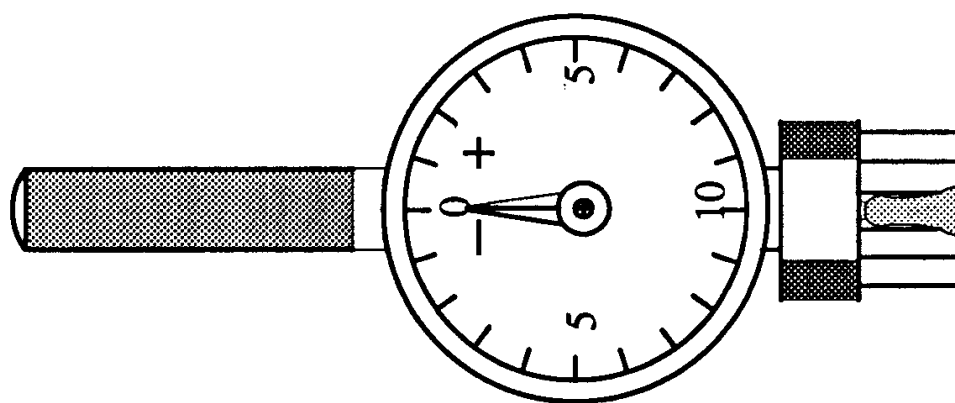

Figure 7 - Flushness Rivet Gauge
- Step 4. Ensure that un-riveted holes and installed rivets in the test piece assembly (if installed) meet the requirements of PPS 2.01 or PPS 2.38, as applicable. If the test piece assembly fails to meet the requirements, determine/correct the cause of the failure and prepare another test piece assembly before commencing production. Check countersink diameters with a countersinking gauge set-up and adjusted according to PPS 1.33. Measure flush head fastener protrusion using a flushness rivet gauge (see Figure 7). If the test piece assembly prepared after completion of the production run fails to meet the requirements of the fastener PPS, refer the corresponding production parts to Bombardier Toronto (de Havilland) MRB or Bombardier Toronto (de Havilland) delegated MRB for disposition.